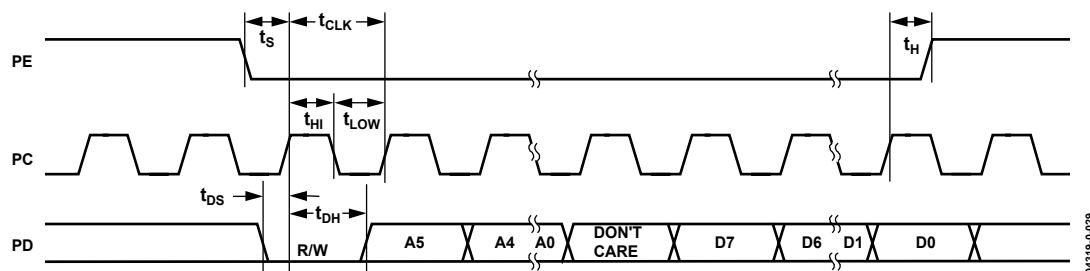

Figure 29. SPI Write Operation Timing
Figure 29 illustrates the timing requirements for a write operation to the SPI port. After the peripheral enable (PE) signal goes low, data (PD) pertaining to the instruction header is read on the rising edges of the clock (PC). To initiate a write operation, the read/not-write bit is set low. After the instruction header is read, the eight data bits pertaining to the specified